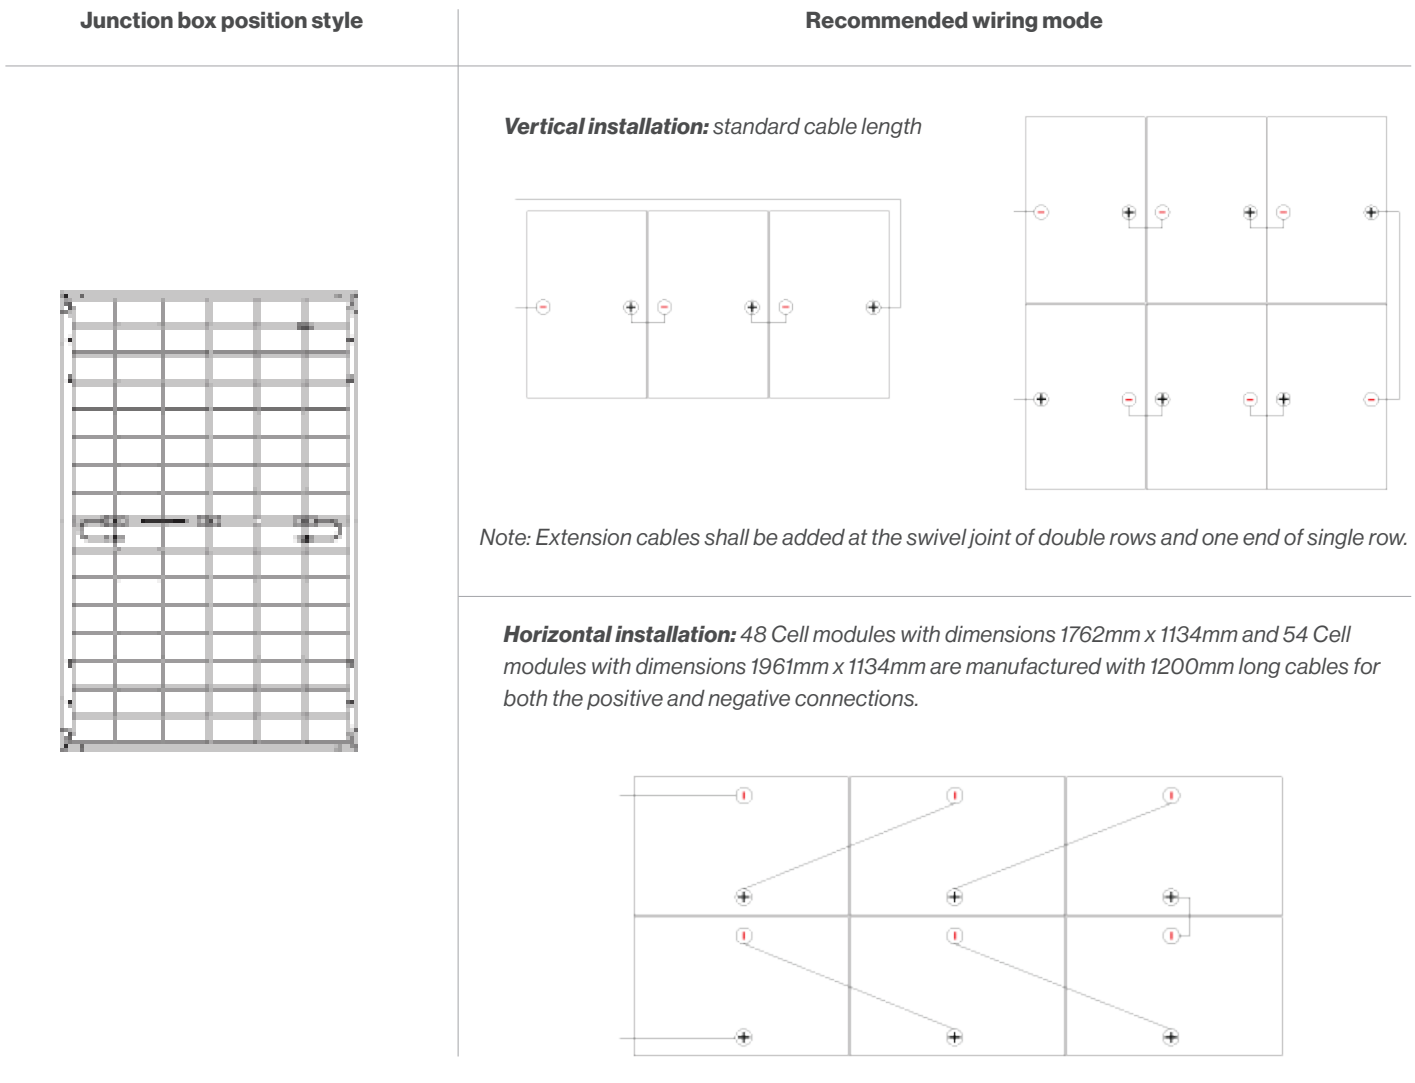

Figure 17: Common arrangement of modules
- The common arrangement of modules includes wiring in single vertical row, double vertical rows, single horizontal row, and double horizontal rows, as shown in Figure 17.